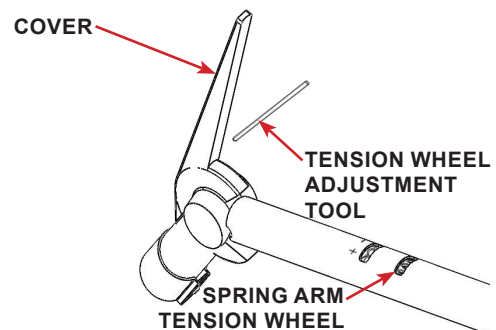

FIGURE 2.45 - Tension Adjustment
- STEP 1:** Flip the cover up, exposing the adjuster tool and tension wheel slots. Remove the adjuster tool. Refer to FIGURE 2.45